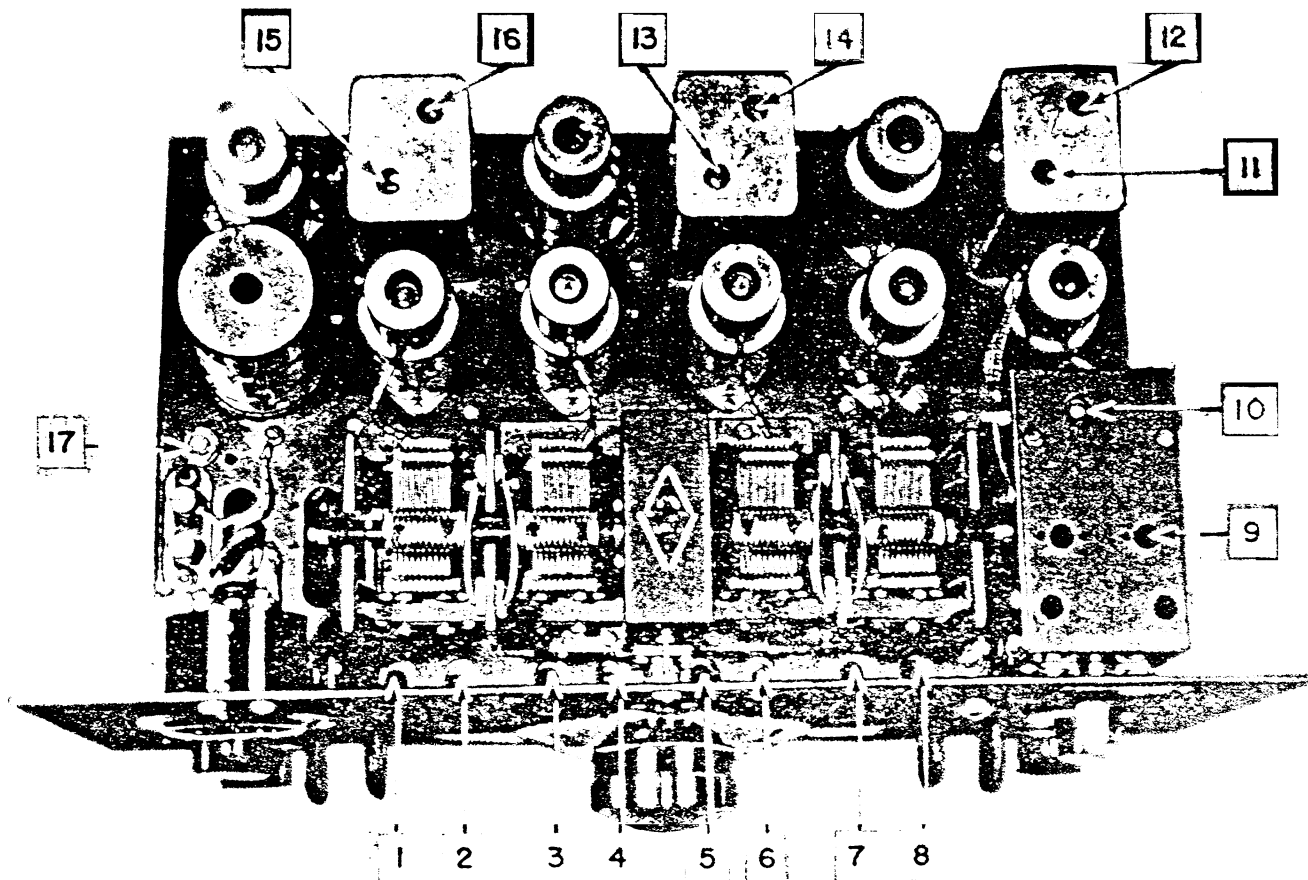

Figure 58. Chassis alignment points.
HRO series of receivers) are located inside the cabinet, on the top of the chassis. All points are exposed and easily reached when the hinged cabinet lid is raised. (See fig. 58.) The complete alignment is divided into four parts as follows:
(1) Prepare receiver and set controls as given in c (2) above but with crystal filter OFF and Selectivity control set for maximum gain.
(2) Connect the high-output lead from a signal generator to the antenna binding post through a standard dummy antenna.
(3) Set the generator for a signal frequency which can be received with a dial setting near 490 as shown on calibration curve of the coil set.
(4) Adjust trimmer number 8, see figure 58, to adjust the dial calibration.
(5) To check the correct frequency of the h-f oscillator, tune the signal generator to the image frequency which is 912 kilocycles higher than the receiver dial frequency. If the image signal appears at a lower signal generator dial setting, the frequency is incorrect and trimmer